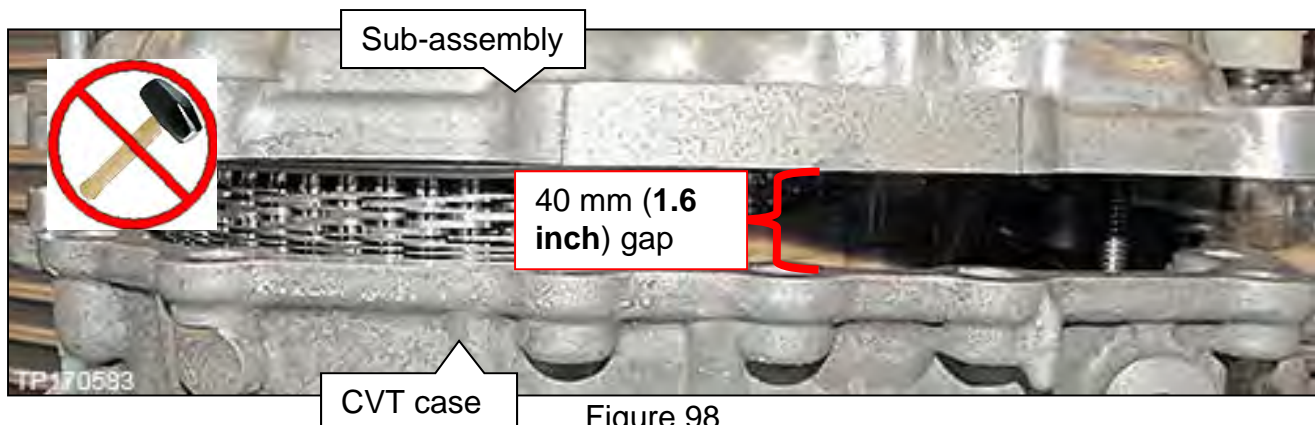

Figure 98
- b. Lower the sub-assembly until a gap of **40 mm (1.6 inch)** is present to the CVT case (Figure 98 on page 44) and then proceed to step 70.
**IMPORTANT:** Perform step 70 while the sub-assembly has a **40 mm gap (1.6 inch)** to the CVT case (Figure 98).